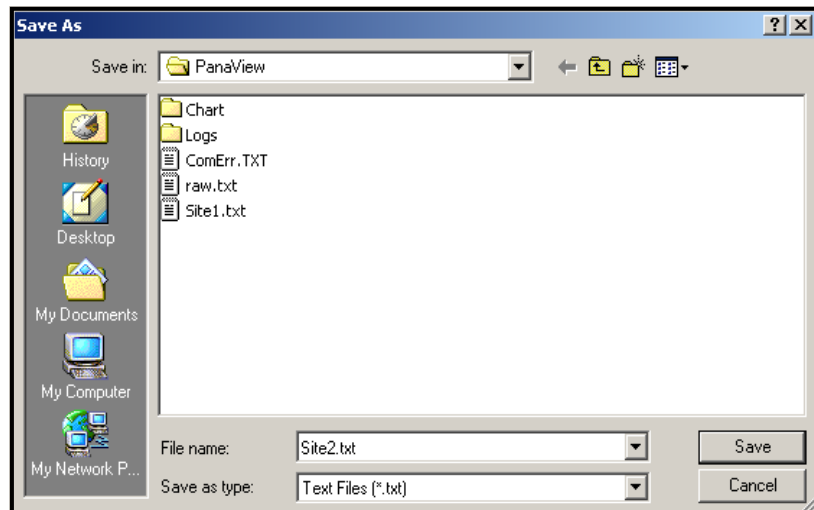

Figure 29: *Save As* Window
To save the raw signal, click **Save**. A window opens similar to *Figure 29* below. Enter the desired name, and click **Save** to save the signal as a text file.
2. Click *Save Site to PC*. A window opens similar to *Figure 29 on page 98*.